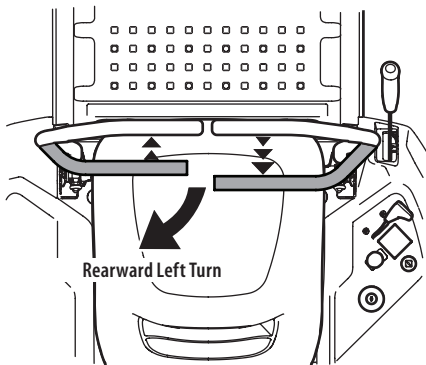

Figure 32
1. To turn to the left while traveling in reverse, move the left drive control lever forward of the right drive control lever (Figure 32).